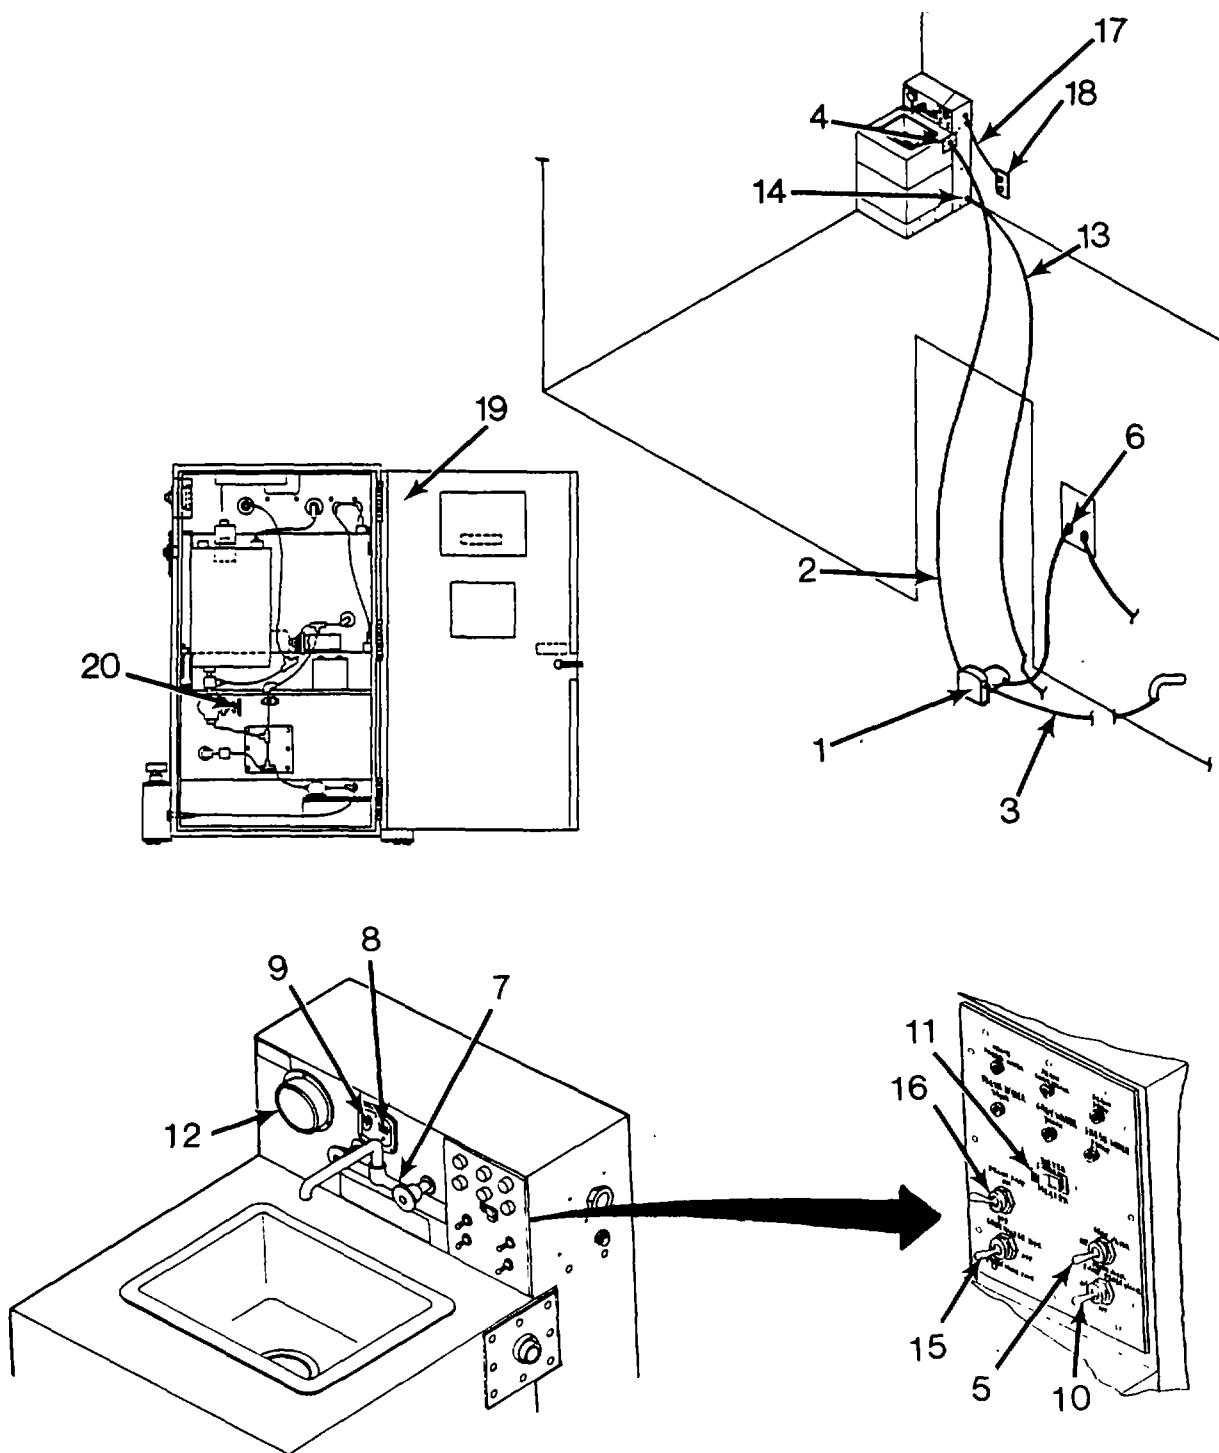

Figure 2-18. Setting Up Sink Assembly
e. Setting Up and Operating Sink Assembly. (See figure 2-18.)
(1) Remove portable pump (1), 25-foot hose (2), and 50-foot hose (3) from storage locations in ink cart and tool caddy assembly.
(2) Place portable pump (1) outside personnel door, connect 25-foot hose (2) to portable pump outlet and connect 50-foot hose (3) to portable pump inlet.
(3) Connect other end of 25-foot hose (2) to sink assembly inlet (4) and connect other end of 50-foot hose (3) to water source.
(4) Verify that all switches are in the OFF position and that sink assembly power cord is connected to wall outlet and place water level switch (5) in FRESH WATER LEVEL position.
(5) Connect portable pump electrical cord to exterior 120v outlet (6) on shelter power input panel.
(6) Open hot water faucet (7), push press to test switch (8), and monitor water level on water level monitor (9). As soon as water level monitor (9) starts indicating, place fresh water pump switch (10) in ON position.
(7) When water starts pouring out of faucet (7), close hot water faucet (7) and open cold water faucet (7). When water starts pouring out of faucet (7), close cold water faucet (7).
(8) When fresh water tank is full (sound level of portable pump (1) will change or sound of water entering fresh water tank will change), disconnect portable pump electrical cord, disconnect 25-foot hose (2) and 50-foot hose (3). Stow portable pump (1) and hoses in ink cart and tool caddy assembly.